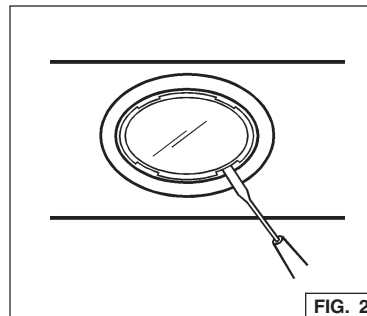

FIG. 2
1. Open the cover by prying from the proper slots. Fig. 2.